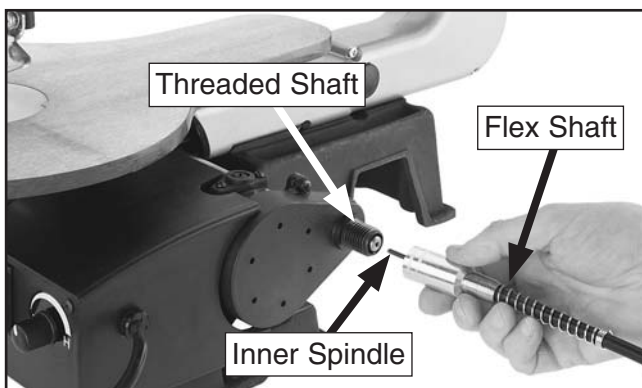

Figure 13. Installing flex shaft.
2. Insert the inner spindle into the threaded shaft, then thread on the flex shaft, as shown in **Figure 13**.